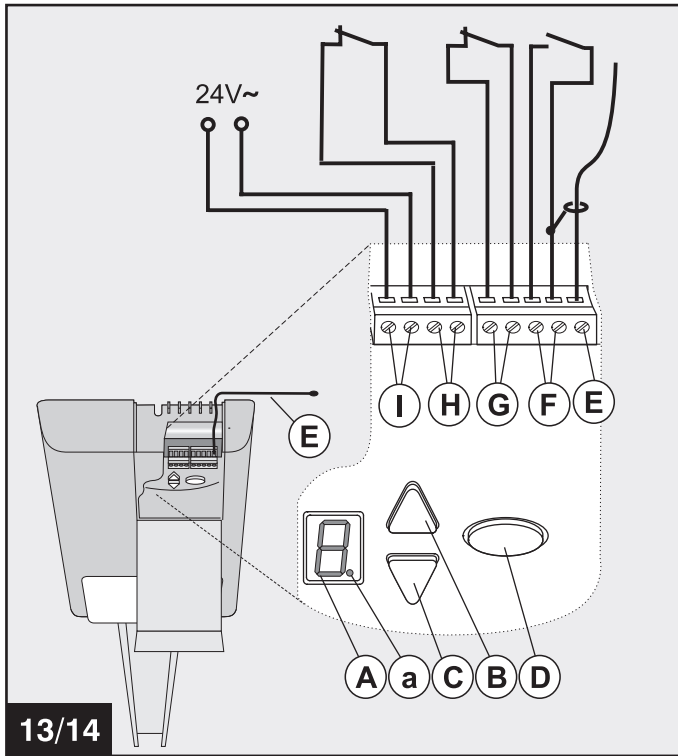

Fig. 13 - Antenna alignment / Connection plan
Where there are increased personal safety requirements, we recommend the additional installation of a counter light barrier (see connection plan Figure 13 (I) (H)) for internal power limitation of the drive. Further information on accessories is provided in our documentation. Please contact your dealer.
- Make sure that the antenna is correctly positioned (see Figure 13).